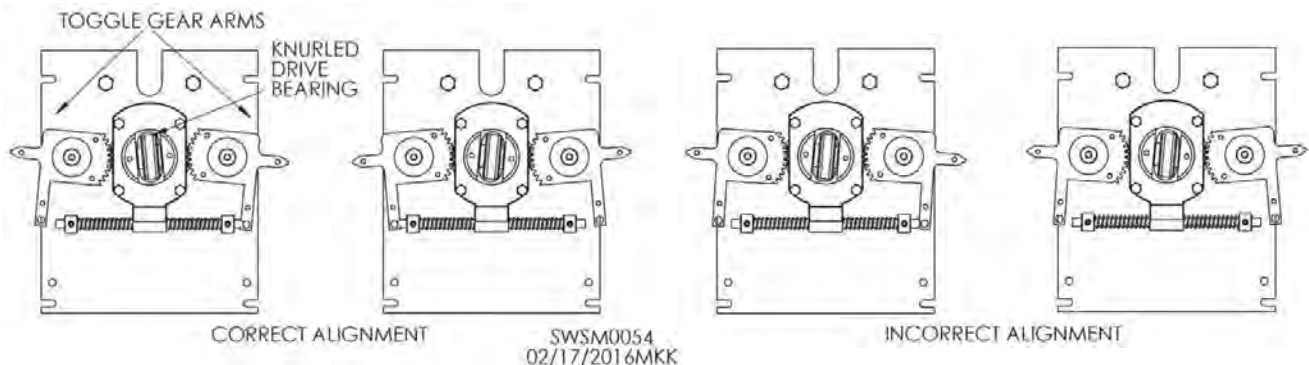

Fig. 42 – Alignment of reversing mechanism
- 4 Reversing mechanism assembly is aligned **correctly** when angle of knurled center bearing is opposite angle of the two toggle gear arms. See Fig. 42.